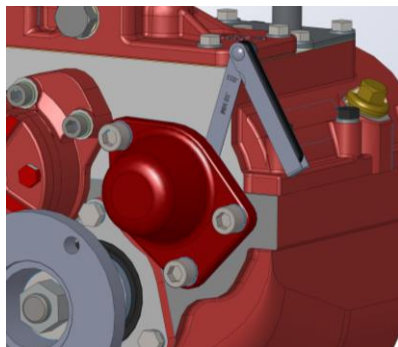

Fig. 15
3. Rotate the shaft, slowly tightening the securing bolts until the shaft starts to bind. Use feeler gauges or shims around the pump or end cover (Fig. 15) to ensure that the gap is uniform and that they are positioned squarely on the rear face of the gearcase.